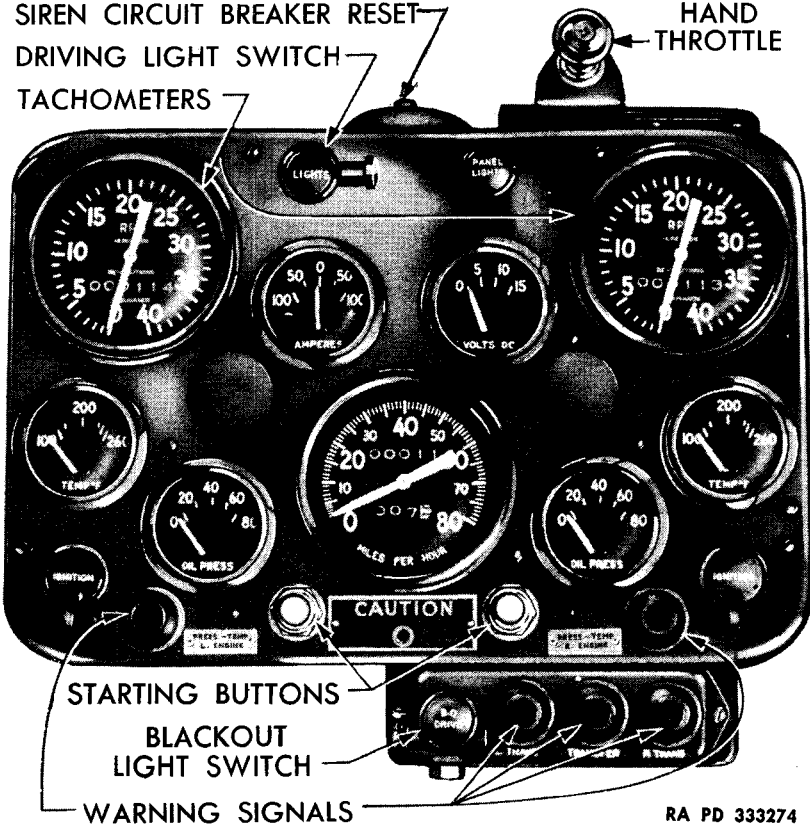
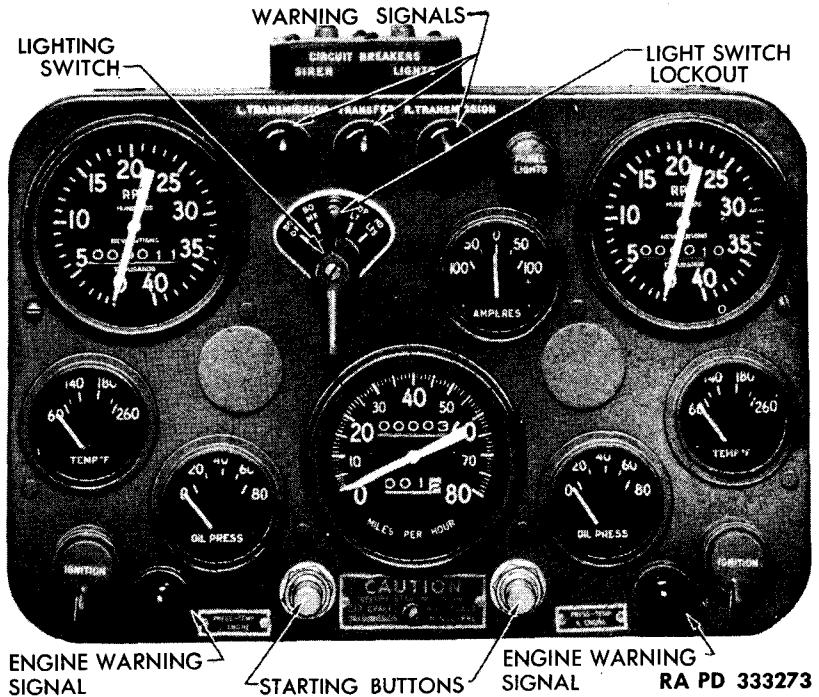
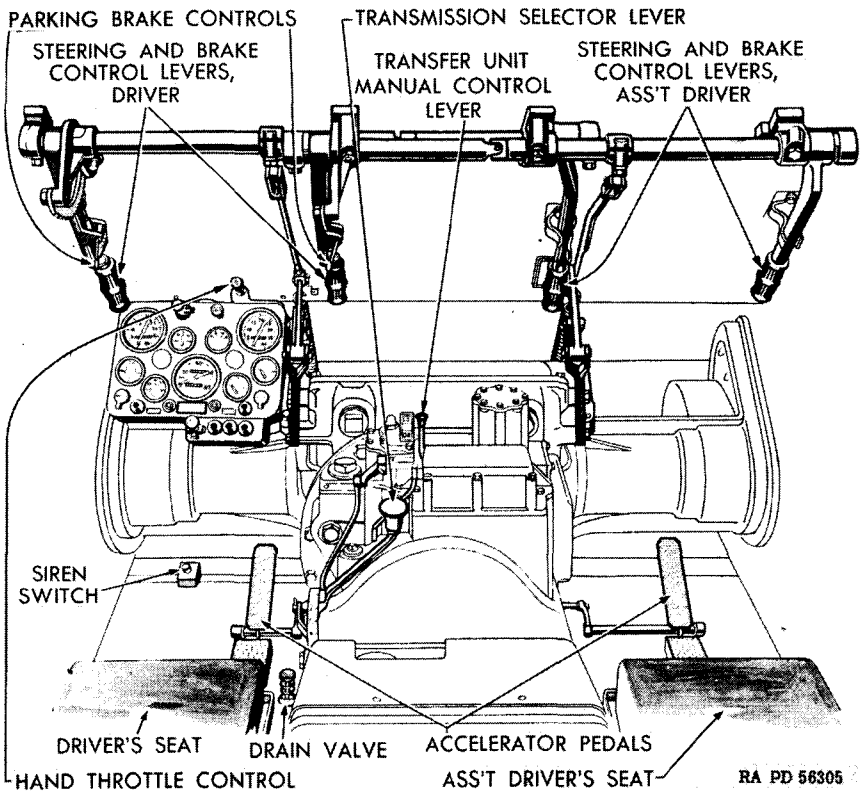

Figure 10 – Instrument Panel – First Type
Figure 11 - Instrument Panel - Second Type
Figure 12 – Driving Controls
a. **General.** Instrument panels of two different designs have been used on these vehicles. The first design is illustrated in figure 10. The second type panel (fig. 11), used on late type vehicles, has a lighting switch of different design, and a manually reset circuit breaker for the lights. The warning signals are rearranged, and the voltmeter is eliminated.
c. Ignition Switches. The ignition switches are located on the outside corners of the instrument panel (figs. 10 and 11). There are two switches, one for each engine. **NOTE:** *In designating instruments, the instrument on the right-hand side of the instrument panel applies to the engine on the right-hand side of the vehicle, and the instrument on the left-hand side of the instrument panel applies to the engine on the left-hand side of the vehicle.*
g. Warning Signals. Warning signals on engine temperature and pressure are located, one on each side, in the lower area of the instrument panel. A red light flashes if oil pressure drops below 12 pounds, or if engine temperature increases above 240° F. Check the oil and temperature gages to determine exactly which system is at fault. Three other warning signals are located on the instrument panel (figs. 10 and 11), one for each transmission, and one for the transfer unit. A red light in one of these indicates dangerously low oil pressure (below 60 lb).
m. **Siren Switch.** The siren switch is located on the floor of the driving compartment (fig. 12). A reset button, for use in case the siren circuit breaker opens, is located on top of the instrument panel (figs. 10 and 11).
b. **Accelerator.** Individual foot accelerators are provided for the driver and assistant driver for dual control of the vehicle. Each accelerator controls both engines. The hand throttle is on the driver's side, located just above the instrument panel, where it can be reached by the assistant driver (fig. 12). The hand throttle is self-locking in any position, and is released by means of a spring button in the center of the control knob. **CAUTION:** Turn assistant driver's accelerator pedal back when not in actual use.